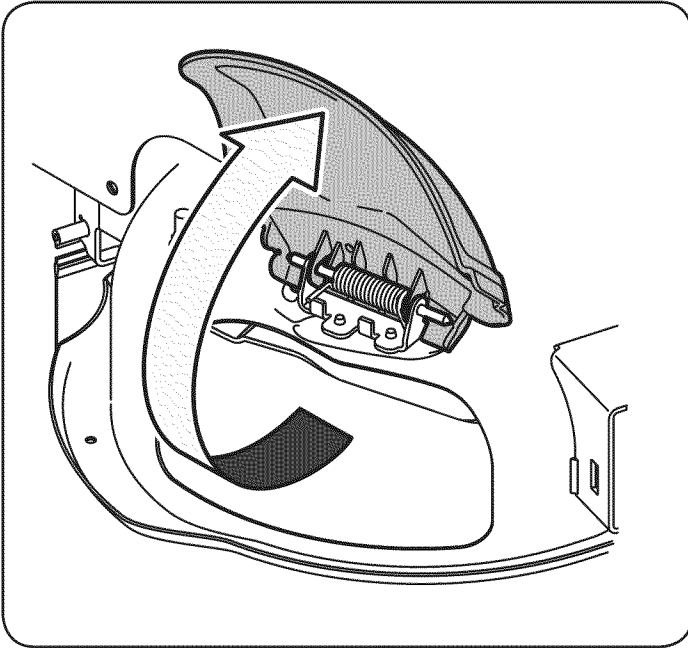

Figure 8
2. On the side of the mowing deck, lift the mulch plug. See Figure 8.